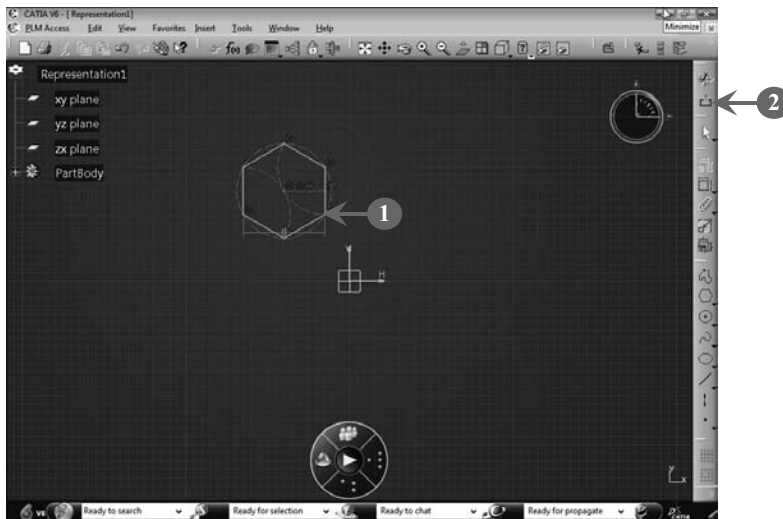

FIGURE 3.83
1. *Create* a sketch in the Sketcher workbench. In our case, we have created a hexagon (**Figure 3.83**).
2. *Select* the **Exit workbench** button (☒) from the Sketcher workbench, as shown in Figure 3.83: